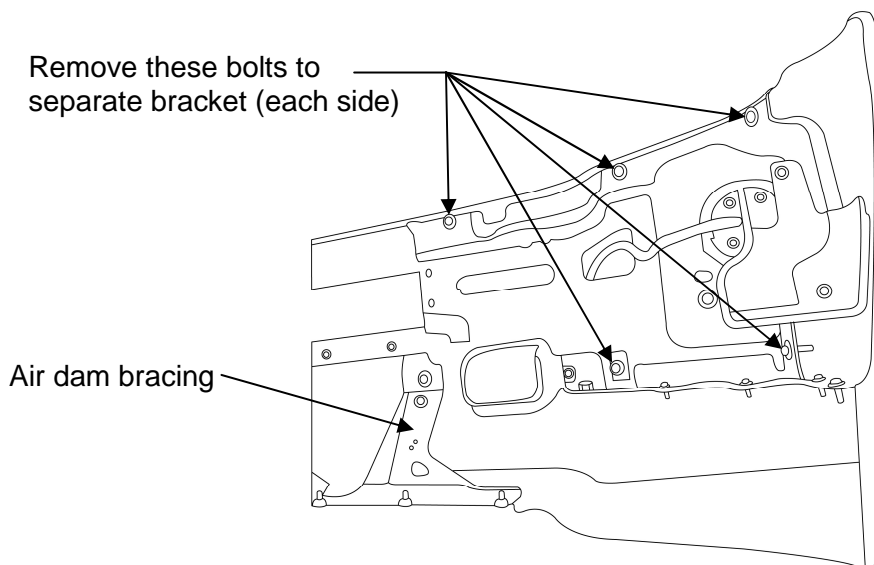

Figure 1
3. Remove the bolts holding the rear brackets to the bumper shell (see **Figure 1**); be careful to remove any sensors, lights, or wiring that may be fastened to the bumper shell.